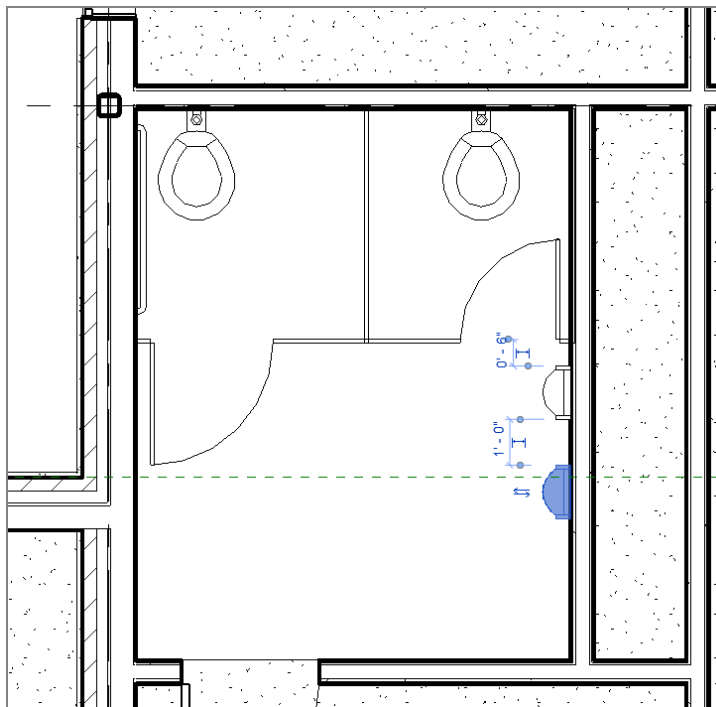

FIGURE 9.40: Adding the urinals to the men's room
5. Click the Component button, and place two urinals about 6" (150mm) away from the front of the stall, with a 1'-0" (300mm) space between the two, as shown in Figure 9.40.